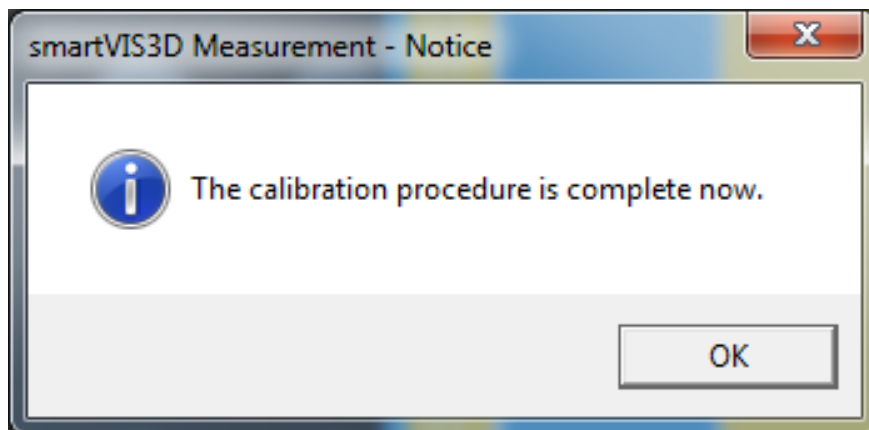

FIGURE 36: LAST INSTRUCTION DIALOG OF THE CALIBRATION PROCEDURE
- f. After pressing the “YES” button the new length scale will be applied to software settings and the last instruction dialog, see Figure 36, will be shown in which you will be notified that the calibration process is completed. Press the “OK” button to close this dialog. After that the calibration procedure is completed